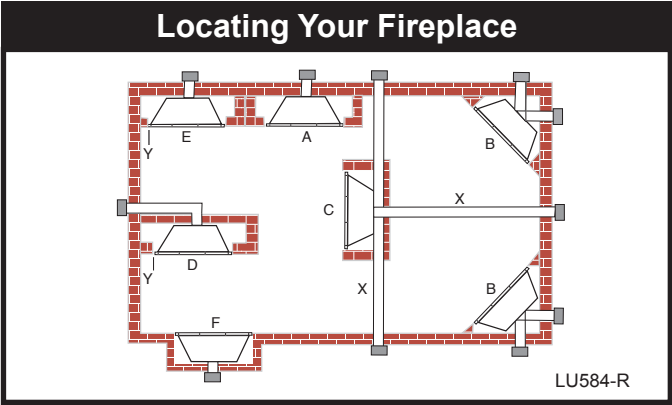

Fig. 2 Locate gas fireplace.
NOTE: (Fig. 2)
** Island (C) and Room Divider (D) installation is possible as long as the horizontal portion of the vent system (X) does not exceed 20' (610cm). See details in Venting Section.
* When you install your fireplace in(D) Room divider or (E) Flat on wall corner positions (Y), a minimum of 6" (153mm) clearance must be maintained from the perpendicular wall and the front side edge of the fireplace. Refer to (Y) in Figure 2.